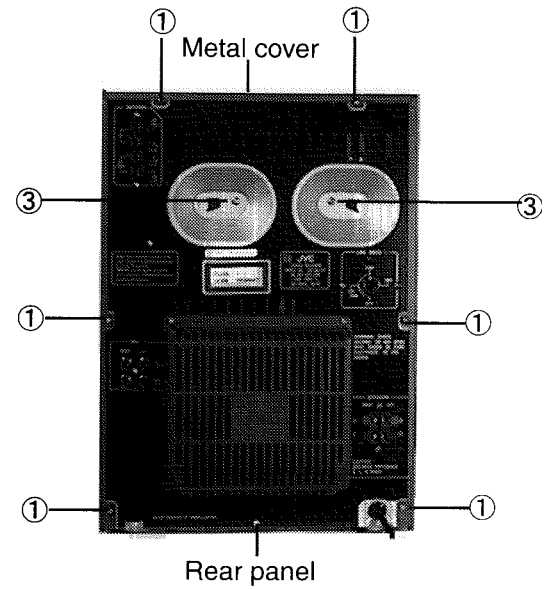

Fig.1
■ Removal of the Metal Cover (See Figs 1,2)
1. Remove the six screws ① fastening the metal cover to the rear panel of the main unit. (See Fig.1)
■ Removal of the CD Traverse Mechanism Assembly (See Figs 1,3 ~5)
2. Remove the two screws ③ fastening the CD traverse mechanism assembly to the rear panel of the main unit. (See Fig.1)